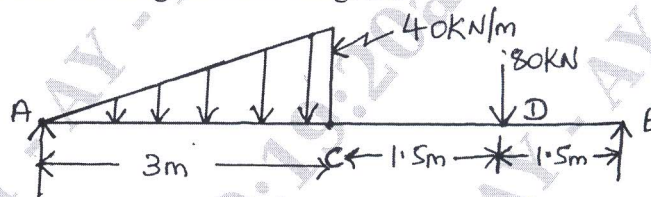

Fig.Q.6(a)
- 6 a. A simply supported beam AB of span 6m is loaded as shown in the Fig.Q.6(a) draw the shear force diagram and Bending Moment Diagram. (10 Marks)